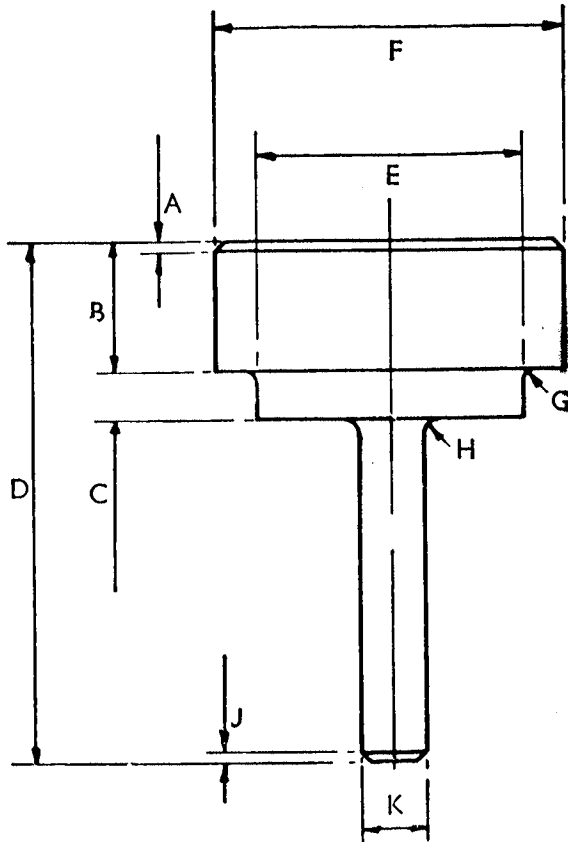

Fig. E.9. Press Tool for Valve Seat Inserts.
Key to Fig. E.9.
4. Remove all machining swarf and clean the insert recess. Using the valve guide bore as a pilot, press the insert home with the inserting tool (Fig. E.9). Under no circumstances should the insert be hammered in, neither should lubrication be used during pressing in.